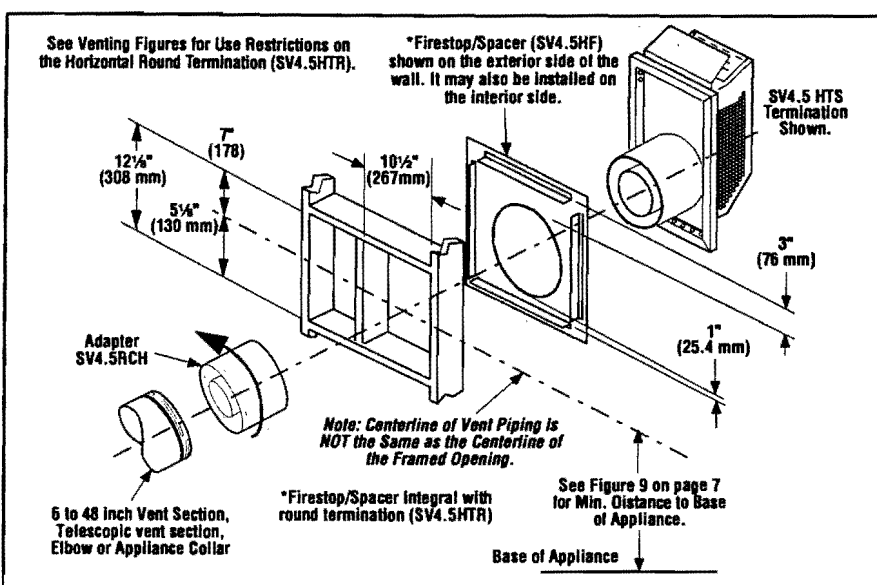

Figure 31 Installing the Square Horizontal Termination (SV4.5HTS)
**K. Attach termination adapter** - Attach the adapter (adapter - SV4.5RCH - provided with the termination) to the vent section or telescopic vent section, elbow or appliance collar as shown in Figure 31 in the same manner as any SV4.5 vent component (refer to Step E).
**L. Install Firestop/Spacer at exterior wall** - When using the square termination, install SV4.5HF (Secure Vent), SF4.5HF (Secure Flex) Firestop/Spacer over the opening at the exterior side of the framing, long side up, with the 3 inch spacer clearance at the top as shown in Figure 31, and nail into place.